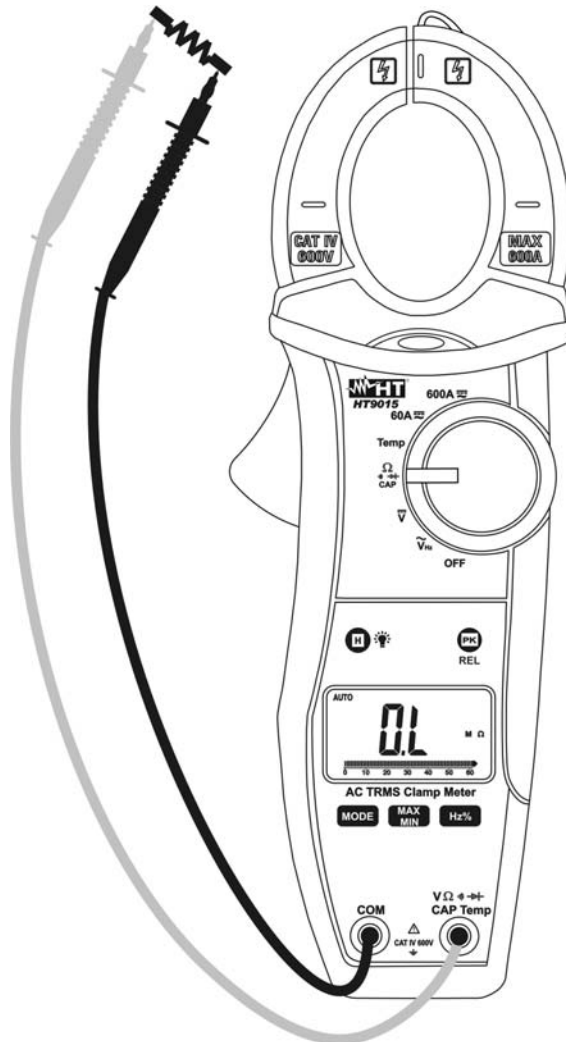

Fig. 5: Taking Resistance measurement
2. Insert the red test lead plug into **VΩHz%Temp** jack and the black test lead plug into **COM** jack (Fig. 5)